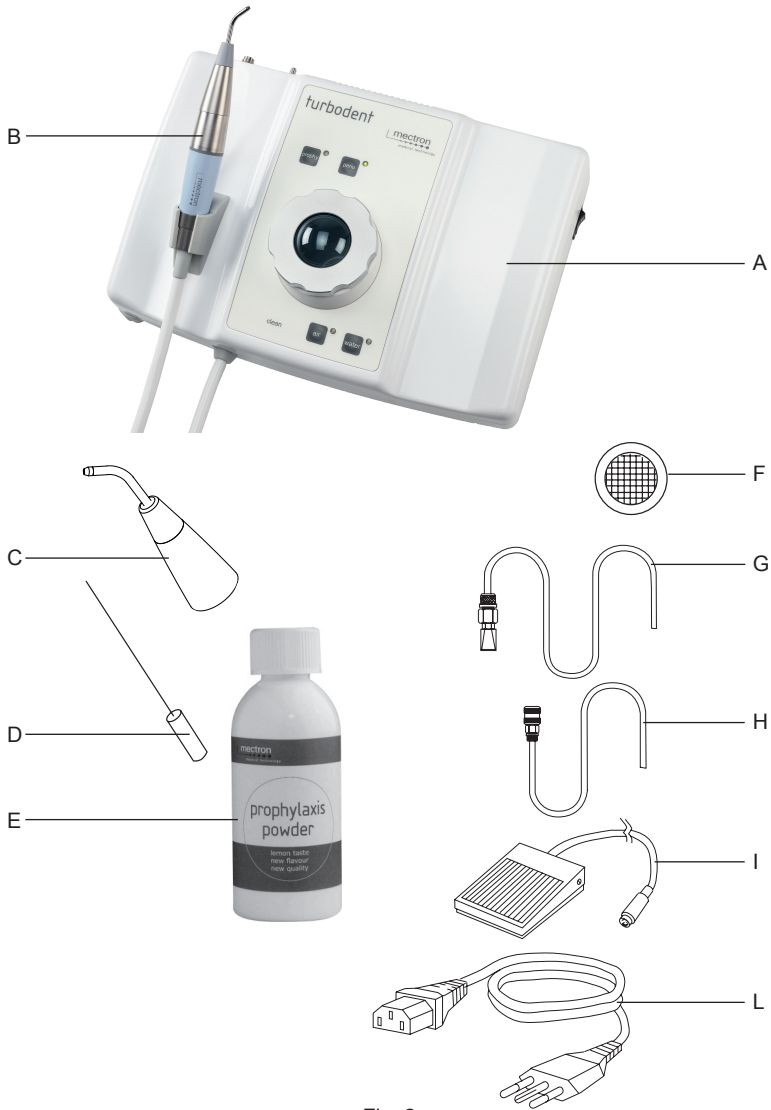
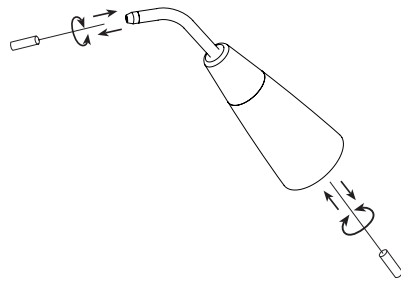

Fig. 2
Fig. 6
- 1 Body of the device (Fig.2 - Ref.A).
- 1 Polisher handpiece (Fig.2 - Ref.B).
- 2 Polisher front terminal (Fig.2 - Ref.C).
- 2 Needles for cleaning the polisher front terminal (Fig.2 - Ref.D).
- 1 Prophylaxis powder bottle (Fig.2 - Ref.E).
- 1 Spare filter for water circuit (Fig.2 - Ref.F).
- 1 Black water hose with quick-coupling connector (Fig.2 - Ref.G).
- 1 Gray air hose with quick- coupling connector (Fig.2 - Ref.H).
- 1 Pedal with cable and plug (Fig.2 - Ref.I).
- 1 Power supply cable (Fig.2 - Ref.L).
Foot pedal (Fig.2 - Ref.I) for enabling operation.
- 1 Insert the front head of the polisher onto the relative handpiece (Fig.2 - Ref.B).
- 2 Free the channel from powder residues by using the supplied needle (Fig.2 - Ref.D) and following the indicated movements(Fig.6). Blow compressed air through the syringe into the central hole of the terminal from both sides.
▲ **WARNING: The nozzle channel should only be cleaned by using the cleaning needle supplied with the device (Fig.2 - Ref.D).**
- 2 Free the channel from powder residues by using the supplied needle (Fig.2 - Ref.D) and following the movements indicated in Fig.6. Blow compressed air through the syringe into the central hole of the terminal from both sides.